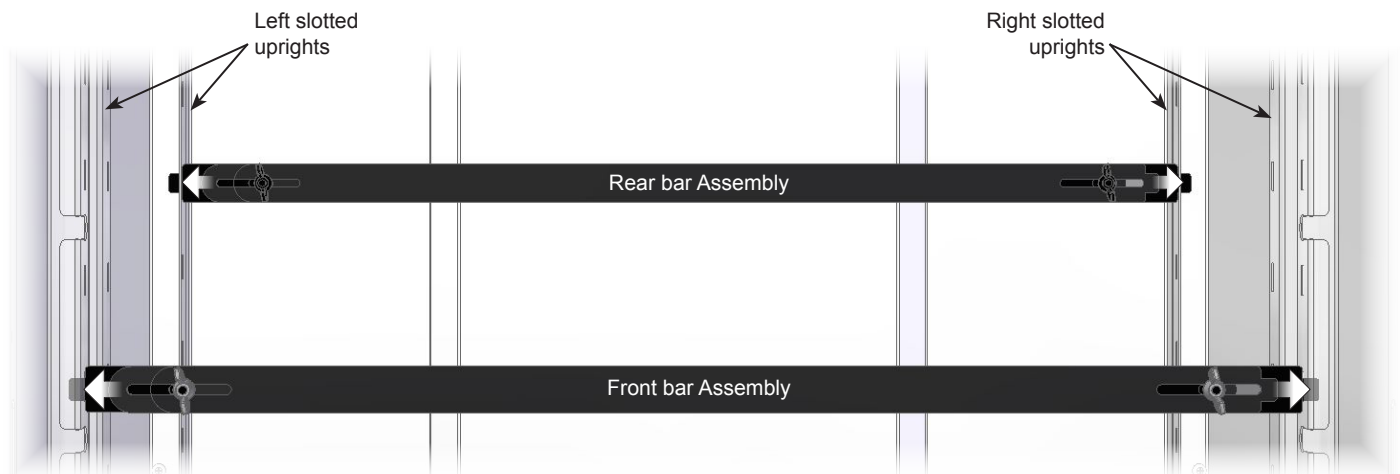

Figure 6
1. Determine the approximate location (height) you would like the module to be mounted. The rear bar is (2) slots higher than the front.
2. Insert one tab into a slot in the left slotted upright. **Figure 6**.
4. Lock the extended position of the bars by securely tightening the (2) wingnuts. Be sure both wingnuts are tight.